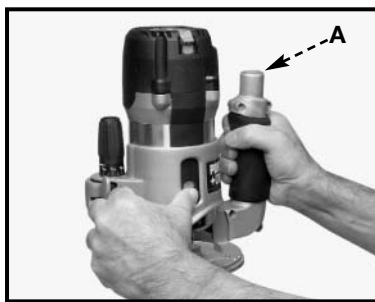

Fig. 20
For convenient dust and chip collection, you can attach your shop vac to the GripVac™ unit by placing the hose on the GripVac handle (A) Fig. 20. See “ACCESSORIES”.